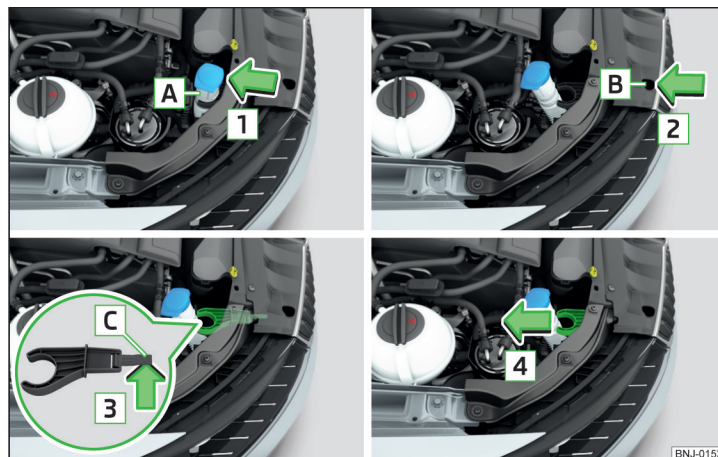

Fig. 184 Remove the holder of the wash water container nozzle
- Unclip the container nozzle **A** from the holder in the direction of arrow **1** » Fig. 184.
- Slide the holder of the container nozzle in the opposite direction to the arrow **4** » Fig. 184.